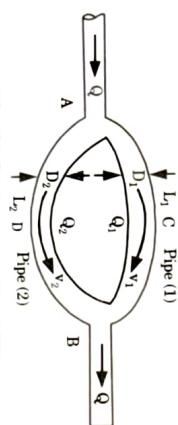

Fig. 1.20.1. Pipes in parallel
- When pipes are laid in parallel, as shown in Fig. 1.20.1, the head loss through each pipe will be the same. Also, the total discharge Q will be equal to the sum of the discharge in each pipe.